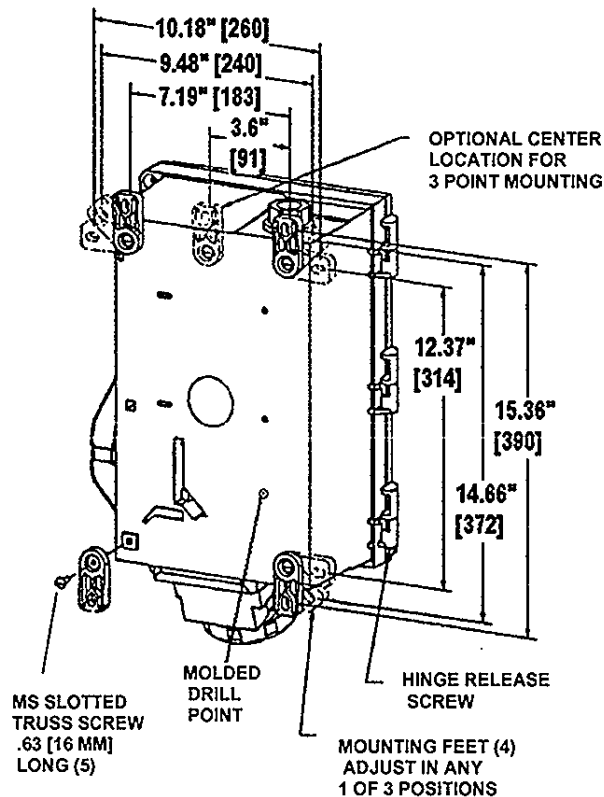

FIG. M1
3. Mount the feet to the enclosure in the desired position using the screws provided. (see Fig. M1 for mounting dimensions). Torque 10 to 12 lb. in. (1.2-1.4 Nm).
5. Turn the three (3) door fastening screws ¼ turn counterclockwise to open door.